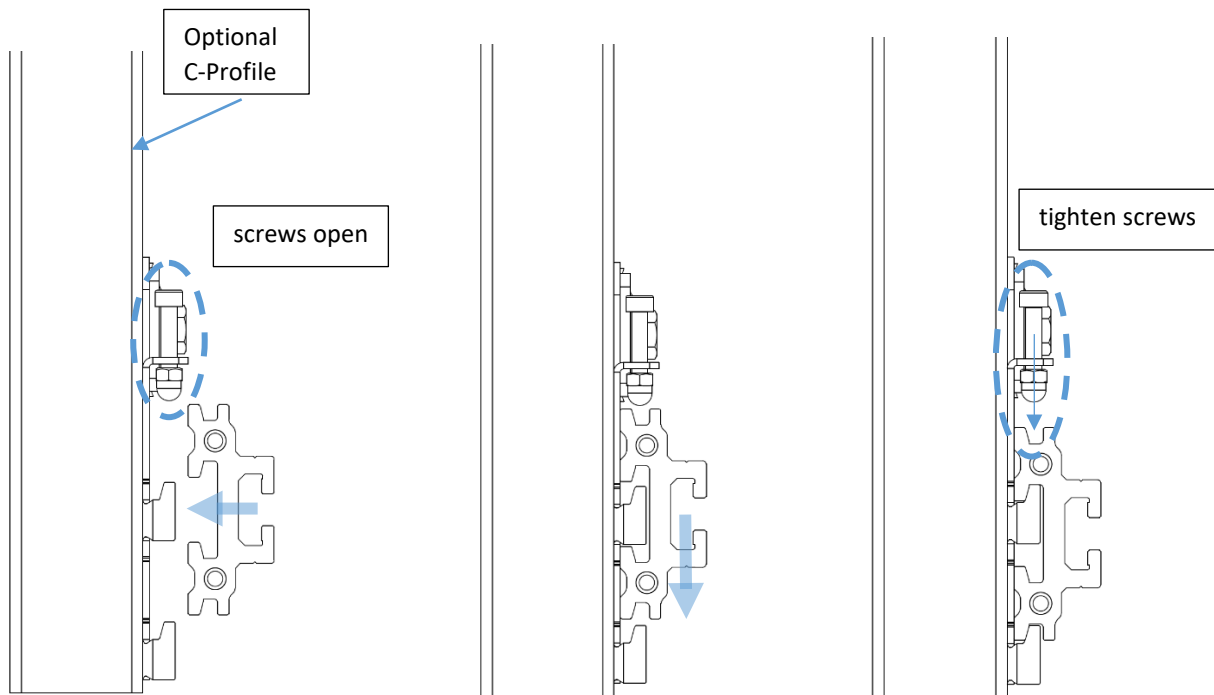

Figure 9 Side view inserting profile to wall mounting plate (step by step from left to right)
Step 1: Start with mounting the lowest row of the wall mounting plates together with the lowest profiles at your desired height. To insert the profiles to the wall mounting plates, unscrew the screws indicated with a blue circle in Figure 9 in the wall mounting plate and slide the profile from the top into the hooks of the plate. Tighten the M5 screws with the 4 mm Allen key so that the profile is secured.